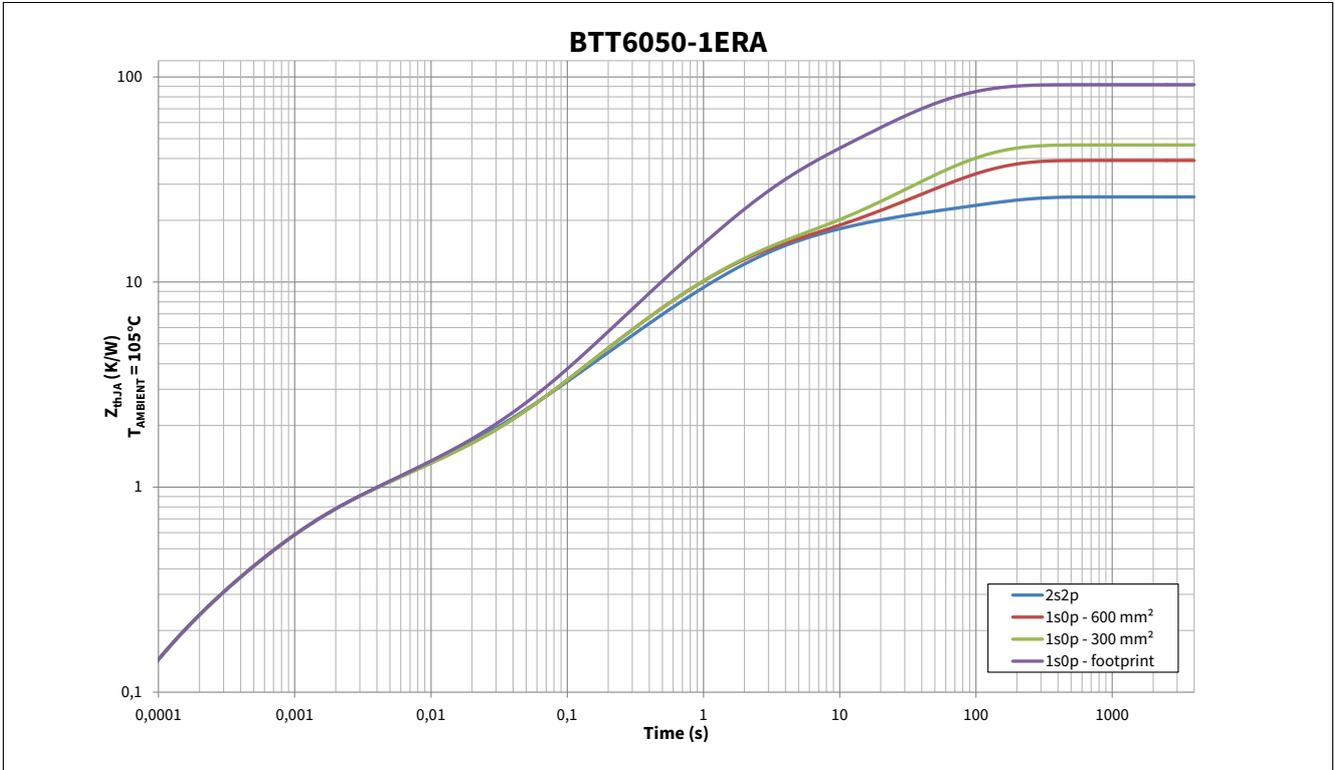

**Figure 4 2s2p PCB Cross Section**
- 2) Specified  $R_{thJA}$  value is according to JEDEC JESD51-2,-5,-7 at natural convection on FR4 2s2p board with 1 W power dissipation at  $T_A=105^{\circ}C$  ; The product (chip + package) was simulated on a 76.4 x 114.3 x 1.5 mm board with 2 inner copper layers (2 x 7  $\mu m$  Cu, 2 x 35  $\mu m$  Cu). Where applicable, a thermal via array under the exposed pad contacts the first inner copper layer. Please refer to Figure 4.